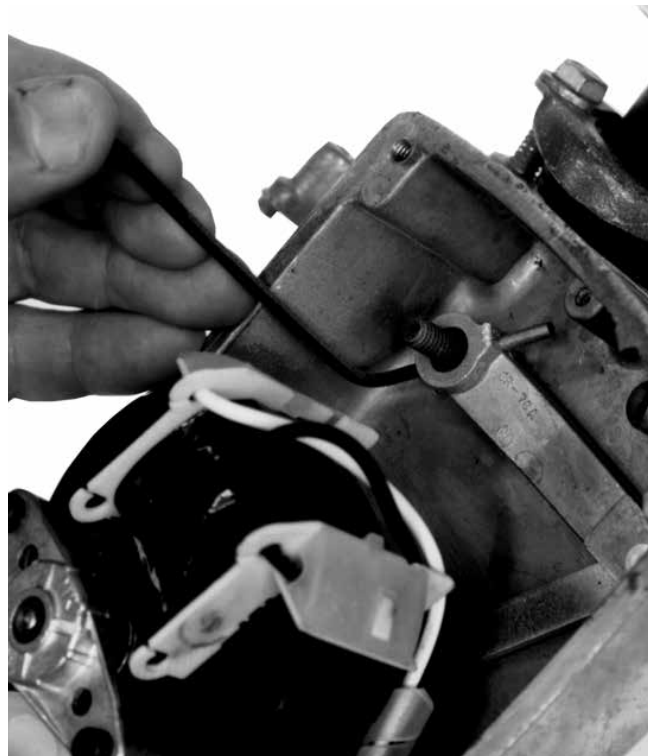

Figure 15. Removing straight pin with allen wrench.
3. With a right angle punch or allen wrench force out straight pin as shown in Figure 15.